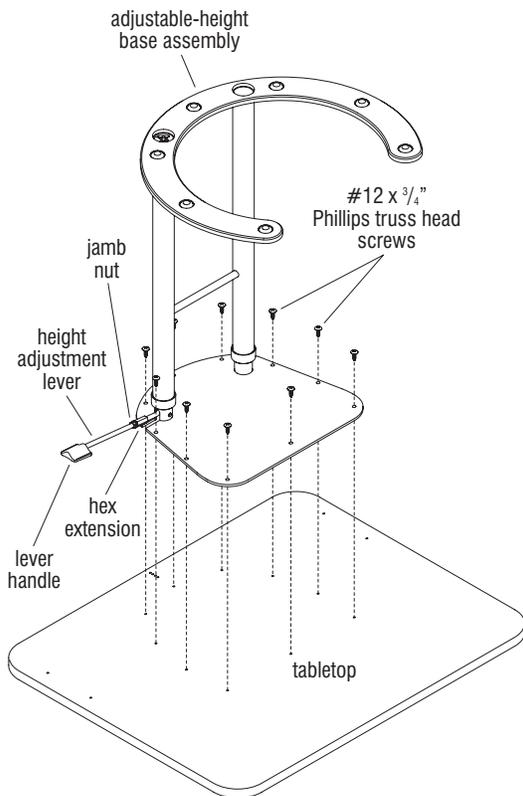

Figure 1
2. Place the tabletop upside down on a soft, protective surface, and place the fixed- or adjustable-height base over the pre-drilled mounting holes in the underside of the tabletop. Secure the base to the top using ten #12 x  $\frac{3}{4}$ " Phillips truss head screws. (Figures 1 & 2).